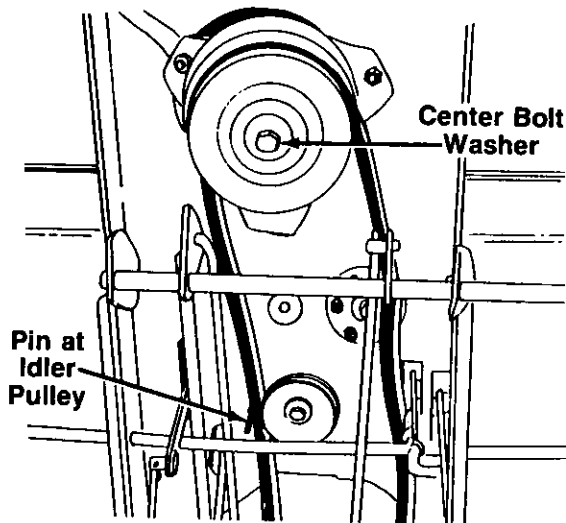

FIGURE 29.
7. Loosen the pin at the idler pulley, shown in figure 29.